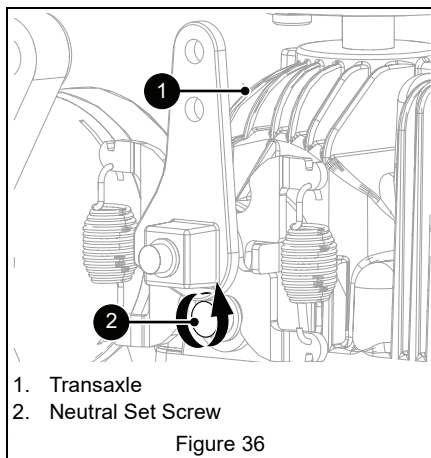

Figure 36
5. Loosen the neutral set screw on the transaxles. See Figure 36.